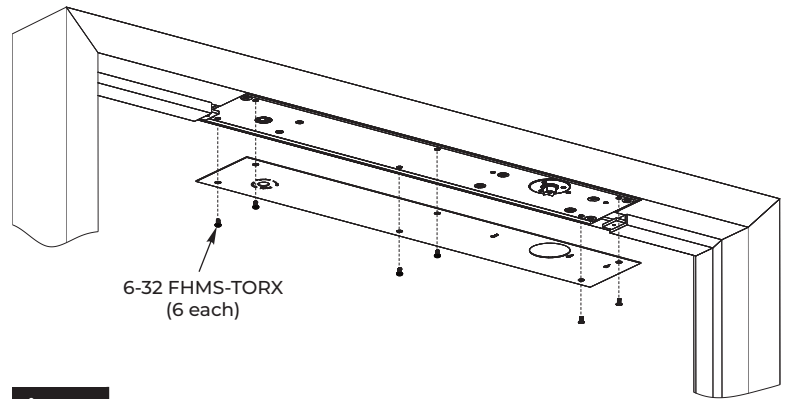

Figure 4
1. Install cover plate to closer mounting plate using a T10 Security Torx bit with six (6) 6-32 x FHMS-TORX mounting screws provided. (Figure 4)